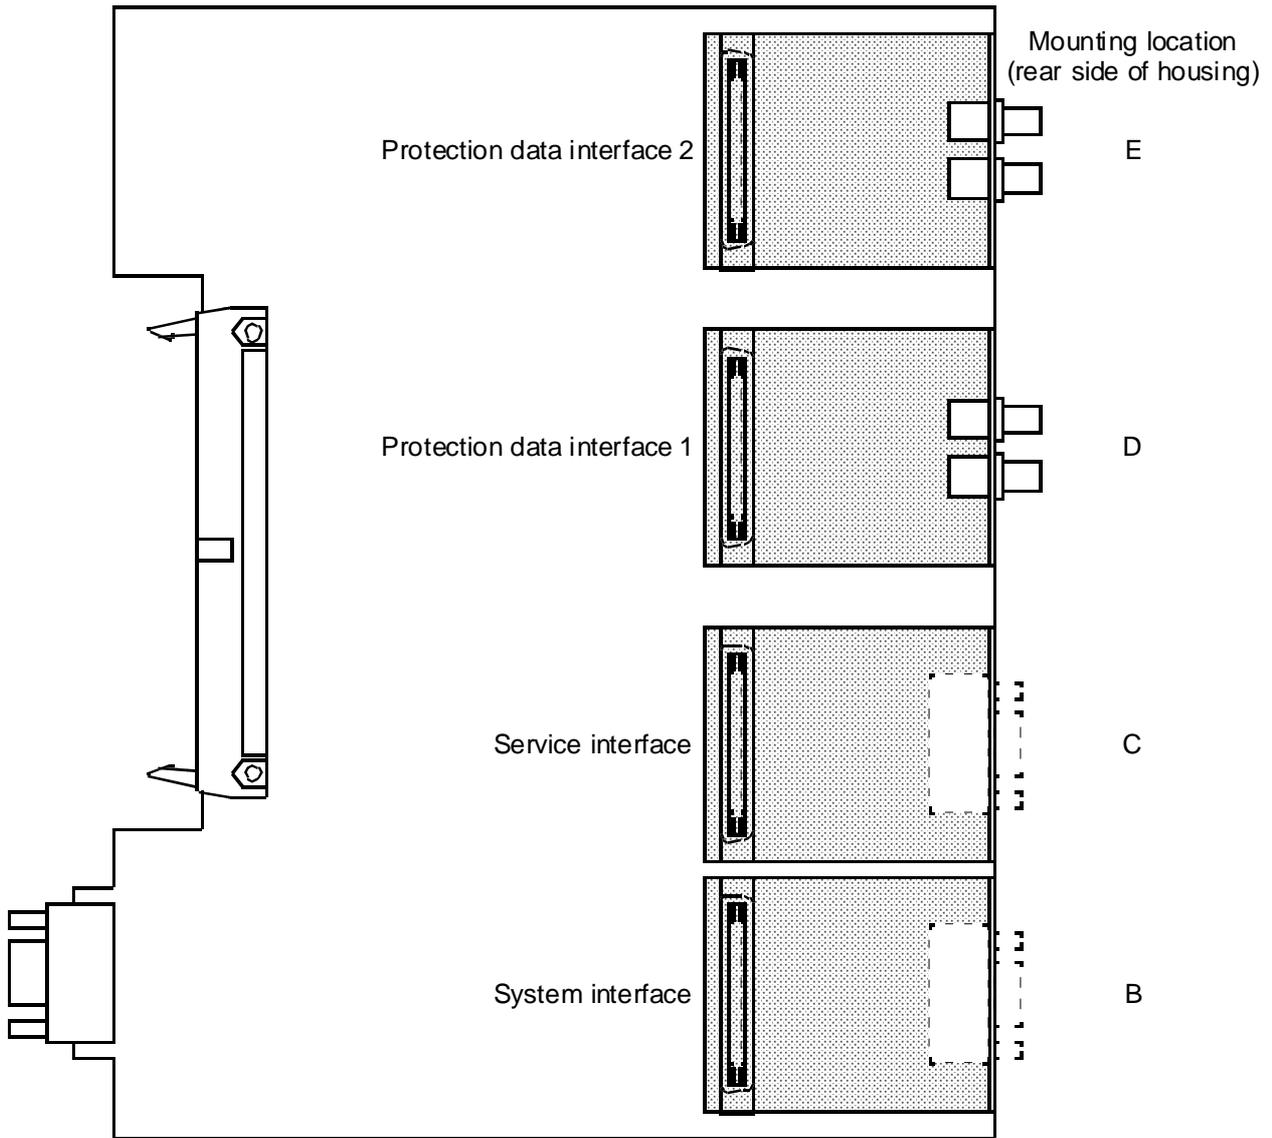
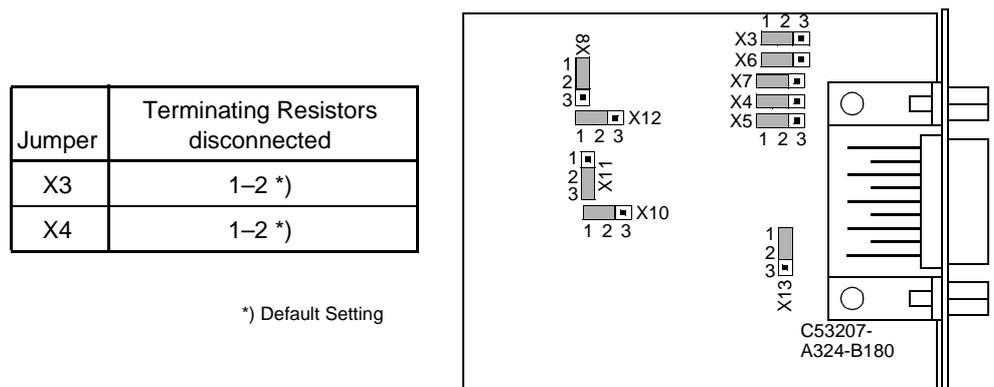

Figure 8-12 Processor board C-CPU-1 and the interface modules (max. complement)
Figure 8-13 Location of the jumpers for configuration of RS232
**Replacing Interface Modules** Interface modules can be replaced. Figure 8-12 shows the printed circuit board C-CPU-1 and the interface modules.
Figure 8-12 shows the printed circuit board C-CPU-1 and the interface modules. Figure 8-13 shows the location of the jumpers of interface RS232 on the interface module.
Interface RS485 can be modified to interface RS232 according to Figure 8-13.
The terminating resistors are located on the corresponding interface module that is mounted to the processor input/output board C–CPU–1. Figure 8-12 shows the printed circuit board of the C–CPU–1 and the order the modules are mounted.